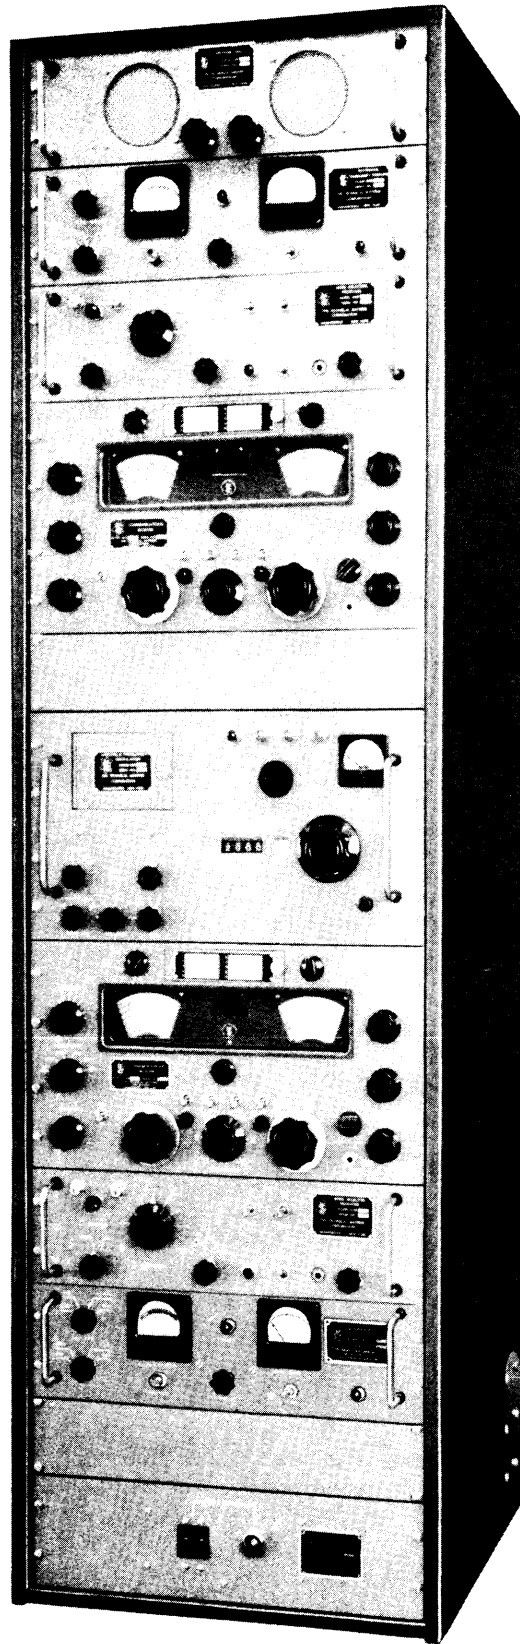

Figure 1-1. DDR-6E Receiver Terminal
As shown in figure 1-1, the DDR-6E is housed in a single 6-foot cabinet. The items of equipment comprising the DDR-6E are listed in table 1-1. The DDR-6E may be supplemented by a second cabinet that contains such auxiliary equipment as may be specified by the customer. Several items of equipment which may be housed in the auxiliary cabinet are briefly described in the Appendix to this manual.
f. LOUDSPEAKER PANEL LSP-7. - As shown in figure 1-1, the LSP-7 is the uppermost panel in the DDR-6E. The LSP-7 contains two 4-inch permanent magnet speakers which are matched to the outputs of the MSR-6's in the cabinet. Connection to each speaker is made through an associated terminal strip mounted adjacent to the speaker at the rear of the LSP-7 panel. A resistive pad associated with each speaker permits output level adjustment without mismatching.
g. POWERCONTROL PANEL DCP-1. - The DCP-1, shown in figure 1-1, occupies the bottom position of the DDR-6E cabinet. The DCP-1 controls the 115-volt